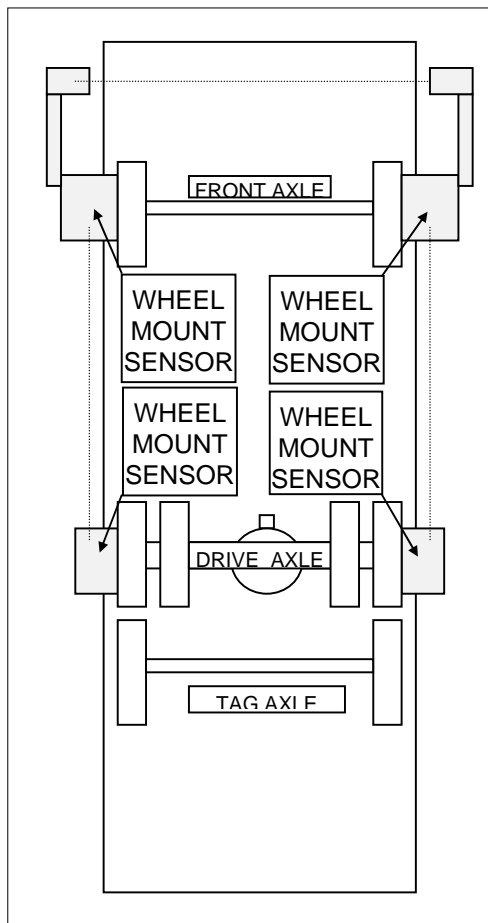
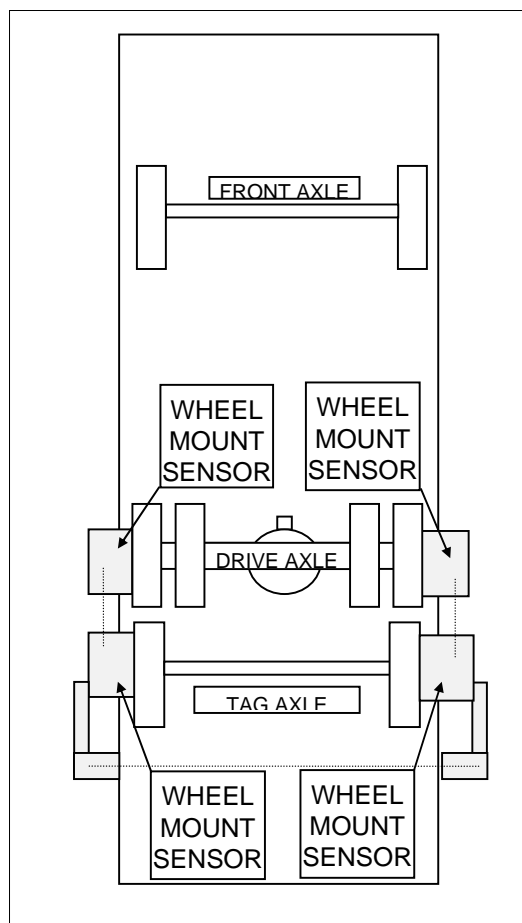

FIGURE 5: FRONT AND DRIVE AXLE ALIGNMENT
FIGURE 6: TAG AXLE ALIGNMENT
3. Install wheel mount sensors on front and drive axles (fig. 5). Adjust front axle according to appropriate specifications chart below.
Note : See reference numbers on wheel mount sensors (fig. 5).
- With the system installed as for front axle alignment (fig.5), adjust drive axle according to specifications' chart below.
- Remove and reinstall all wheel mount sensors on the drive and tag axles (fig. 6);
Note : Reinstall wheel mount sensors as shown in figure 6. For example, the sensor from the right side of the front axle is mounted on the left side of the tag axle. For corresponding wheel mount sensor reference numbers, refer to figure 5.